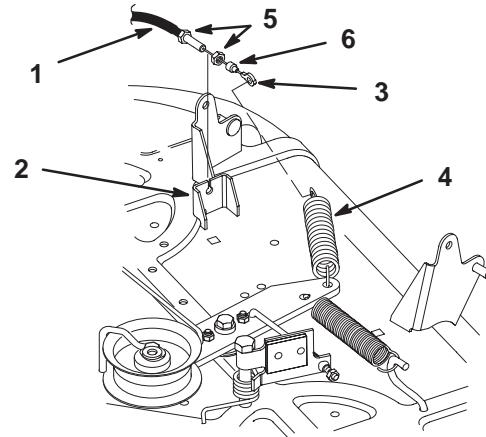

Figure 43
10. Remove the rubber wiper and first jam nut. Thread the second jam nut onto the PTO cable all the way. Route the cable through the slot in the deck bracket and thread the second jam nut onto the cable (Fig. 43).
11. Hook the end of the PTO cable onto the idler spring (Fig. 43).